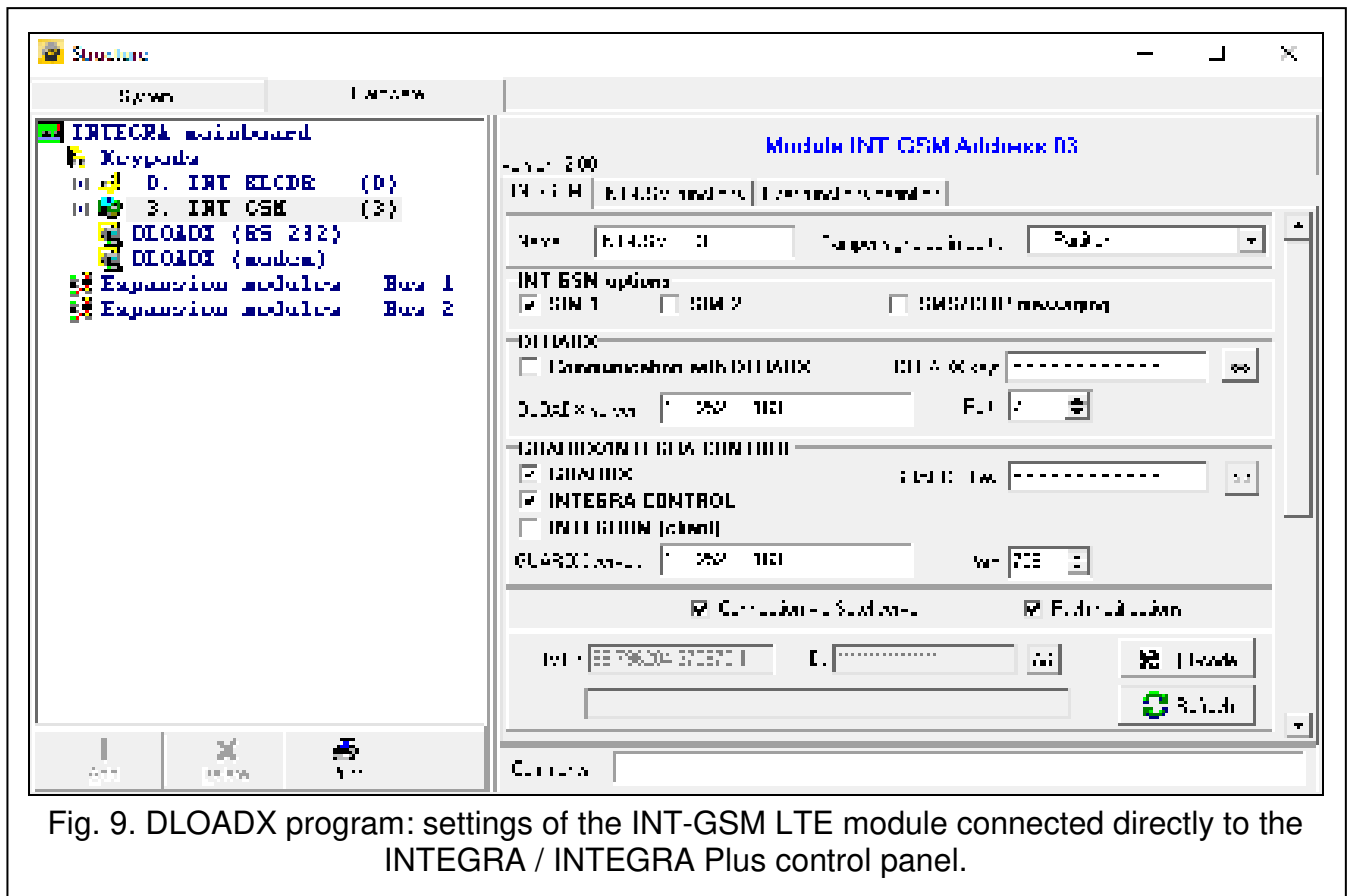

Fig. 9. DLOADX program: settings of the INT-GSM LTE module connected directly to the INTEGRA / INTEGRA Plus control panel.
- DLOADX program: "Structure" window → "Hardware" tab → "Keypads" branch → [module name] (Fig. 9),